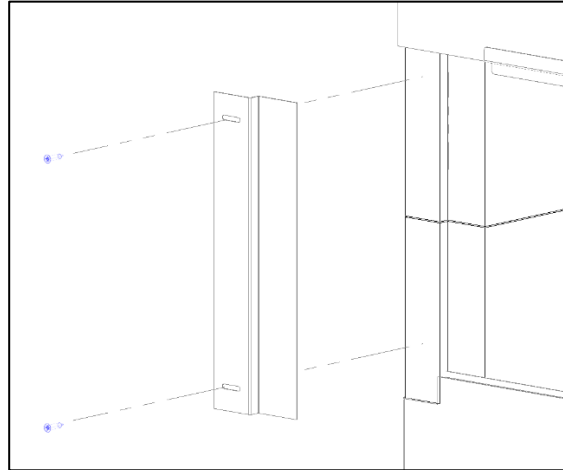

FIGURE 70
- 1) Orient the brick cover so that the slotted holes are oriented to the exterior edge of the fireplace, with the contours of the Brick Cover matching to the contours of the sidewalls of the firebox (**Figure 70**).